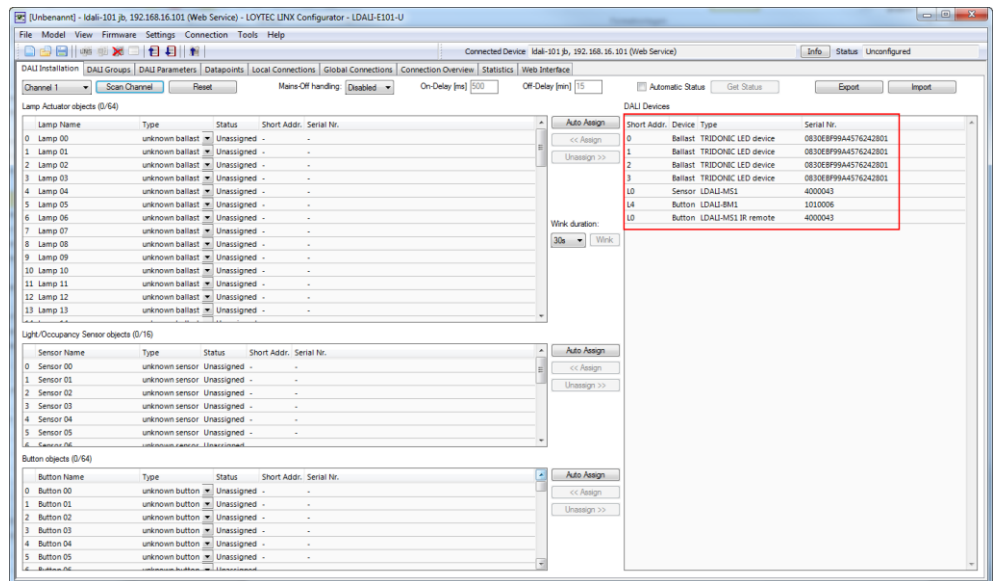

Figure 22: LINX Configurator software, detected DALI devices.
- The L-DALI device scans the selected channel and displays all detected devices as shown in Figure 22. In case an error occurs see the LOYTEC Device User Manual [1] for a description of the error codes and possible reasons.